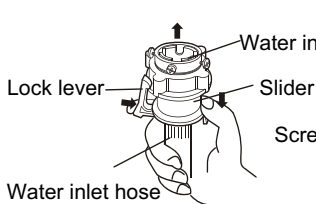
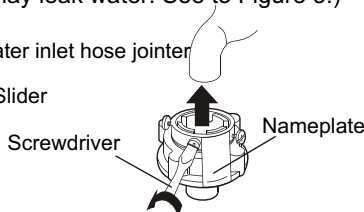
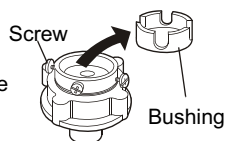

Figure 1
Figure 2
Figure 3
2. Put down the drain hose. Take off the drain hose frame. As indicated in Figure 1, put the drain hose into the cabinet. Then stretch one hand into the cabinet to nip the claw of the drain hose bushing to remove the claw from original position. Take off the drain hose bushing with the other hand. (As indicated in Figure 2 and 3).
1. Press the lower end of the lock lever and push down the slider. Take off the water inlet hose jointer from the water inlet hose component. See to Figure 1.
2. Loosen the screw till the water faucet can be accessed. Put the jointer of the water inlet hose on the faucet. See to Figure 2. (If the faucet is too large and the jointer can not be set on the water faucet, please loosen the four screws and take out the bushing in the jointer. The front end of the faucet must be smooth, otherwise it may leak water. See to Figure 3.)